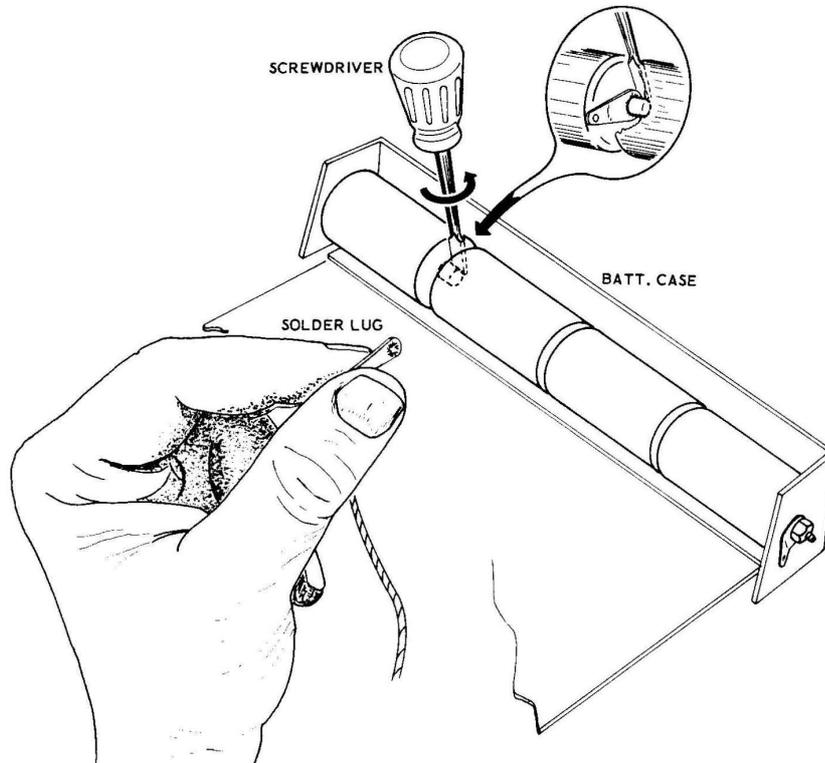

Figure 3M
- () Connect the free end of this 5-1/2" wire to lug 6 of terminal strip A (S). Insert the #6 solder lug down between battery #3 and battery #4 in the manner indicated in Figure 3M. Be sure the solder lug is not touching any metal parts of the chassis.